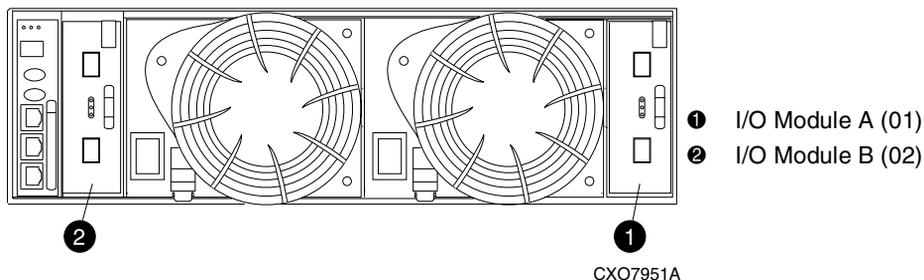

Figure B-5: I/O module element numbering
- *en.* is the two-character I/O module element number (see Figure B-5)